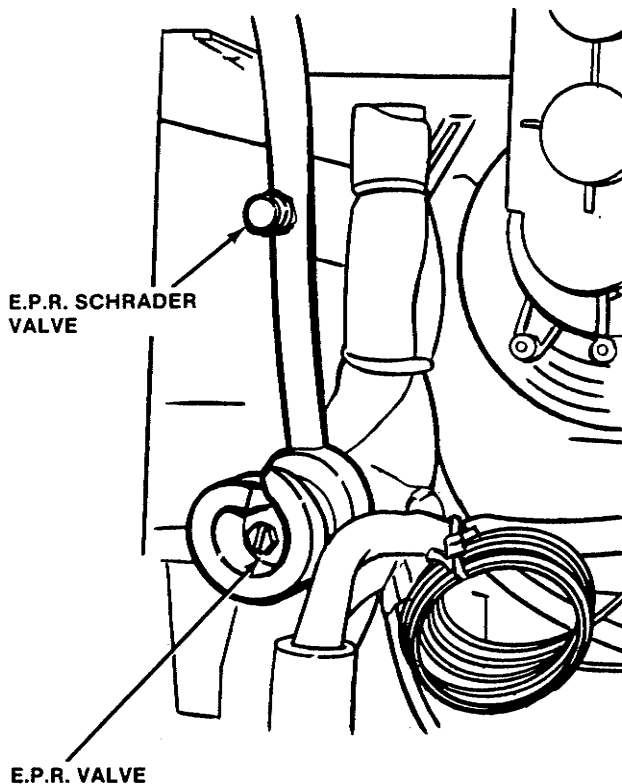

Figure 40. Schrader Valve Location
2. Remove the cap from the E.P.R. Schrader valve (Fig. 40).